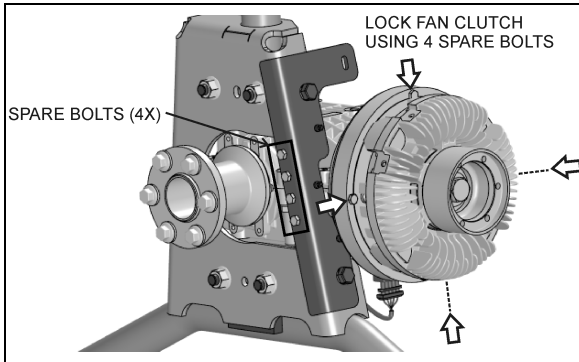

FIGURE 40: MECHANICAL LOCKING 05124
3. Unscrew and remove the 4 spare M6x12 hex bolts screwed to the angle on the fan gearbox mounting support (FIGURE 40).